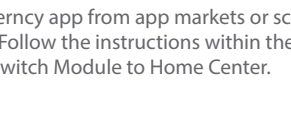

Fig.8
- ③ Connect the +/- wire of LED1 or LED2 to the plus-n-minus of the LED indicator. (Fig.8)* The Module supports up to two sets of 5V or 12V LED indicator with 20mA max output current.